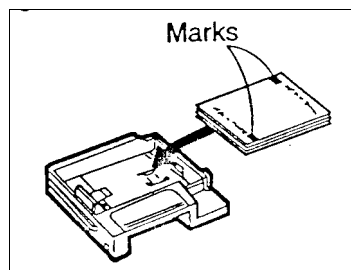

Figure 6-13. Inserting Paper
2. Fan the paper a few times to remove static electricity, then place the paper into the cassette with the printed side up (Figure 6-13).